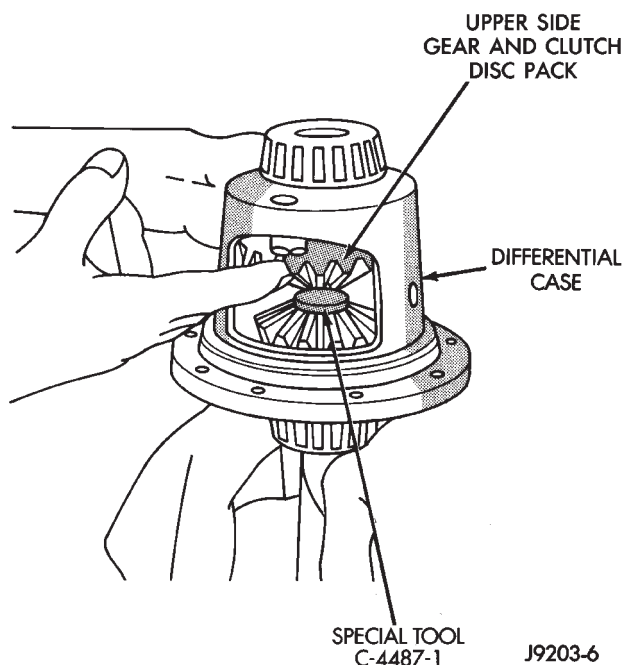

Fig. 53 Upper Side Gear & Clutch Disc Pack Installation
(5) Install lubricated Step Plate C-4487-1 on first clutch pack (Fig. 53).
(6) Install the upper side gear and clutch disc pack (Fig. 53).
(7) Hold assembly in position. Insert Threaded Adapter C-4487-3 into top side gear, insert forcing Screw C-4487-2.
(8) Tighten forcing screw tool to slightly compress clutch discs.
(9) Place pinion gears in position in side gears and verify that mate shaft hole line up.
(10) Rotate case with Turning Bar C-4487-4 until mate shaft holes in pinion gears align with holes in case.
(11) Tighten forcing screw to 122 N·m (90 ft. lbs.) to compress the Belleville springs. Lubricate and install thrust washers behind pinion gears and align washers with a small screw driver. Insert mate shaft into each pinion gear to verify alignment.
(12) Remove forcing screw, threaded adapter and step plate. Install pinion gear mate shaft, align holes in shaft and case.
(13) Install the pinion mate shaft lock screw finger tight to hold shaft during installation.